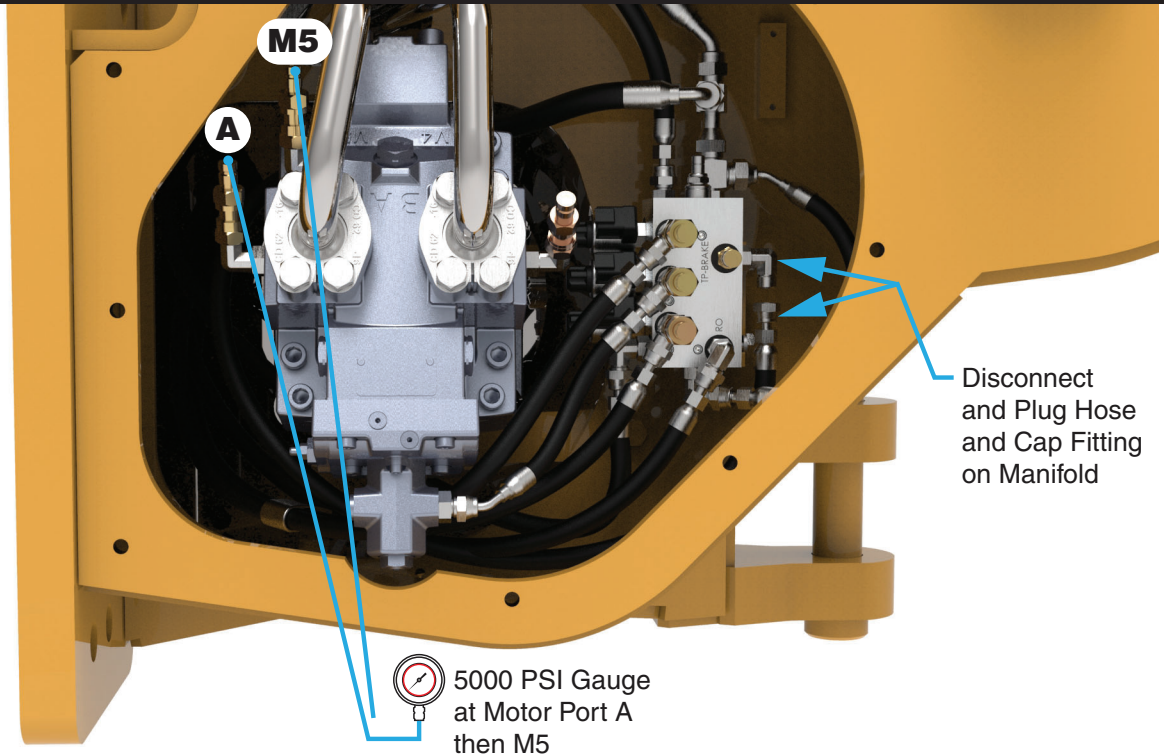

Figure 3-8 PCOR Pressure Check (E465 shown)
2. Disconnect and plug the brake release hose at the control manifold, and cap the fitting. Most installations will have that hose connected to the “BRAKE” port on the right side of the manifold, as shown in Figure 3-8. Start dozer and set to high-free idle.